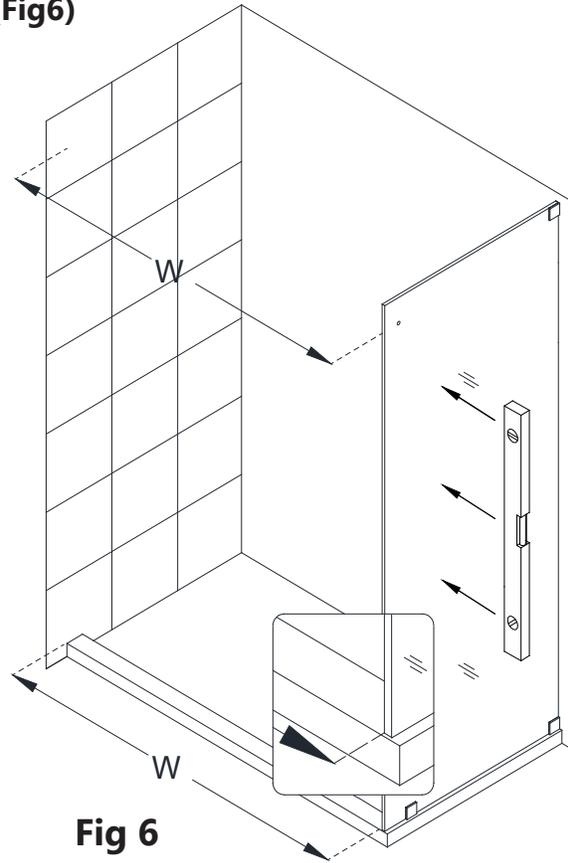

Fig 6
6. Measure the distance from the finished wall to the inside surface of the installed **Return Panel Glass (#27)**. This distance will represent the finished opening size "W" that you will use to calculate your finished cut dimension for the **Upper Guide Rail (#03)**. **(Fig6)**